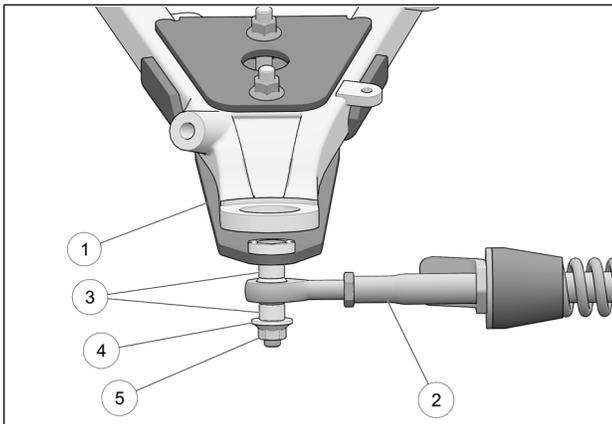

Fig. 18
- Attach the stabilizing rod (2) to the anchor bracket (1), using the two spacer bushings (3), flat washer (4) and nut (5). Torque to 70 N•m [52 lb•ft]. Refer to Fig. 18